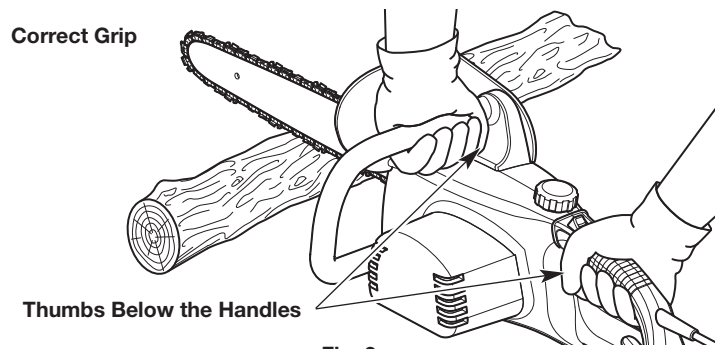
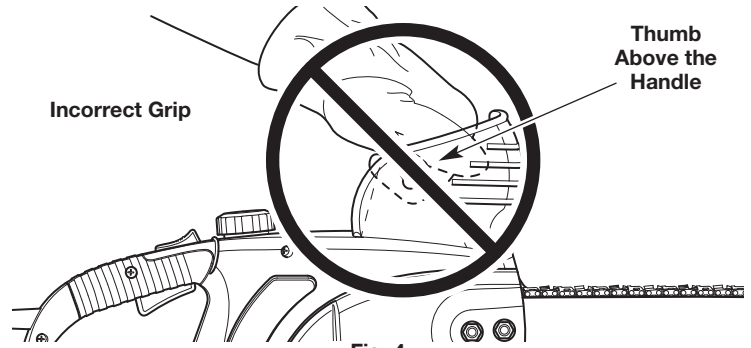

Fig. 3
Fig. 4
- Firmly encircle the handles with the thumbs and fingers (Fig. 3). This will help reduce the chance of losing control of the unit if kickback occurs. Any grip with thumbs and fingers on the same side of the handles is dangerous (Fig. 4).